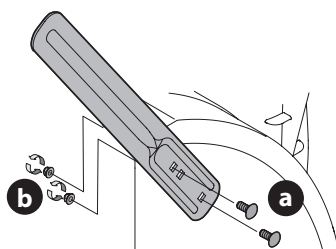

Figure 43
1. Remove two carriage bolts (a) and lock nuts (b) that secure each drift cutter, and remove them from the sides of auger housing (Figure 43).
2. Turn the drift cutters around and position them as shown in Figure 43 to the outside of the auger housing.